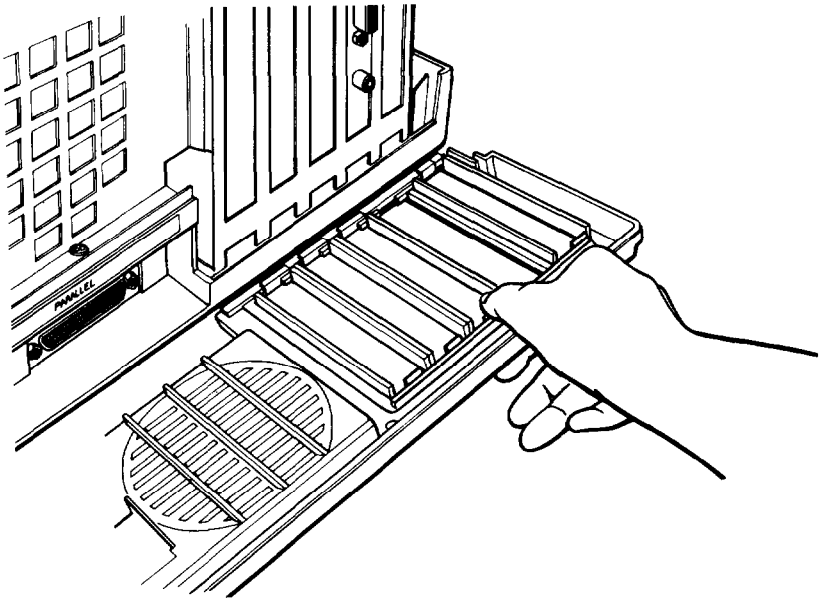

Figure 3-5. Removing access slot cover
- Remove the appropriate cover by pushing down on the clip and pushing out. See Figure 3-5. Save the cover in case you need to remove the option card.